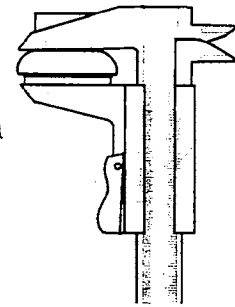

Fig. 11
Step 1 - Measure the lower stack by assembling the three main pieces and holding them together (the crown race, bearing retainer, and lower pressed race). Be certain the retainer is in its proper orientation. Carefully measure the lower stack by placing it between the calipers as shown in figure 11. It is a measurement from the bottom of the crown race to the head tube seat of the lower pressed race (not to the part that extends into the head tube). Another way to look at it is you are measuring only the parts that would be fully visible if the lower stack were installed into the head tube. Measure in millimeters to the nearest 0.1mm.